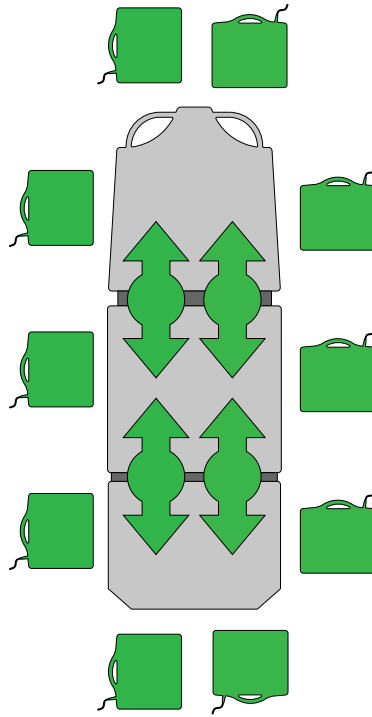

Figure 33 – Inserting or removing X-ray cassettes on Prime X option
1. Center the patient on the product with the position indicator labels located on all sides of the product (Figure 33).